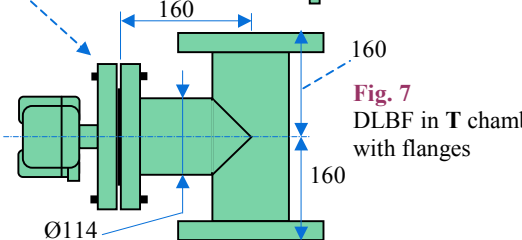

Fig. 7
- closed in cylindrical chamber in **T** shape, with 3 flanged branches (ANSI 150, 300 psi, $\text{Ø}3'' \div 4''$) : Fig. 7;